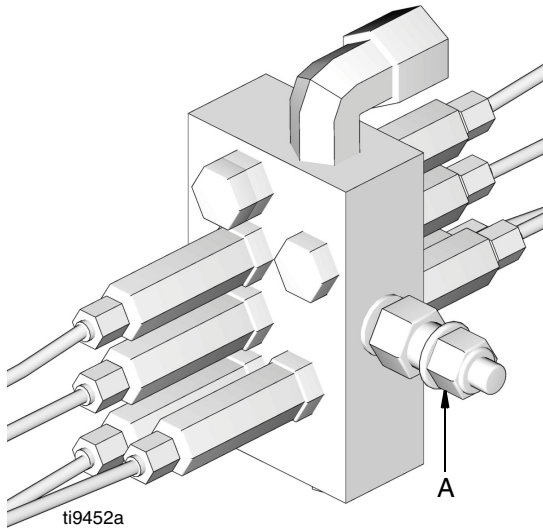

FIG. 6
- Modules (Fig. 6) are mounted with a ported stud (A) through a 5/8 in. (16 mm) hole.